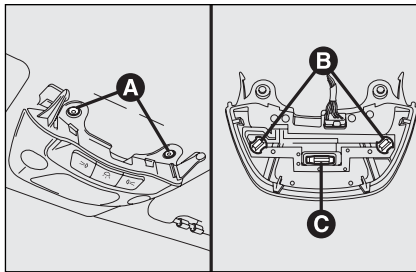

fig. 45
- slacken the 2 fastening screws **A**-fig. 45, then turn the 2 bulb holders **B** counterclockwise, remove the bulbs and replace them. To replace bulb **C**, release it from the side contacts making sure that the new bulb is correctly clamped between the contacts.